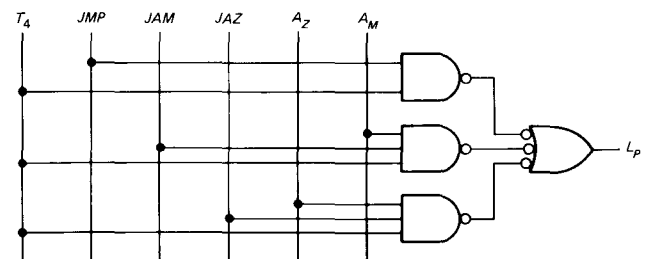

Fig. 3-34
- 3-25. In Fig. 3-34 the inputs are  $T_4$ ,  $JMP$ ,  $JAM$ ,  $JAZ$ ,  $A_M$ , and  $A_Z$ ; the output is  $L_P$ . What is the output for each of these input conditions?